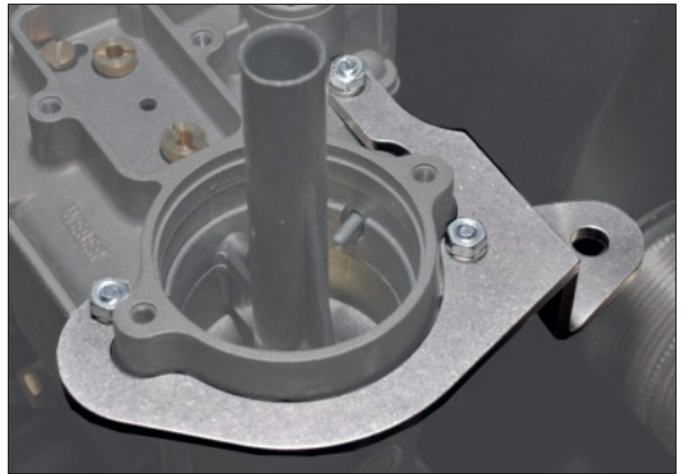

Fig. 6
- Replace the screws with the supplied M5x30 studs (Fig.6). Use some loctite to make sure the studs are secured properly in the carb housing.
- Put the carb plates on the top of the carburettor. The sides are marked with L and R for easy identification.(Fig.6)
- Danach befestigen Sie die Halteplatten (Fig.6) so, dass die jeweilige Kennzeichnung für L=links und R=rechts unten steht.